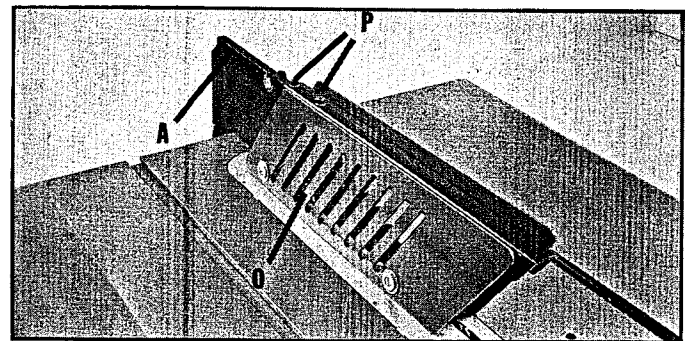

Fig. 17
5. Assemble the blade basket guard (O) to top of splitter (A) using the two allen screws (P) and washers supplied, as shown in Fig. 17.